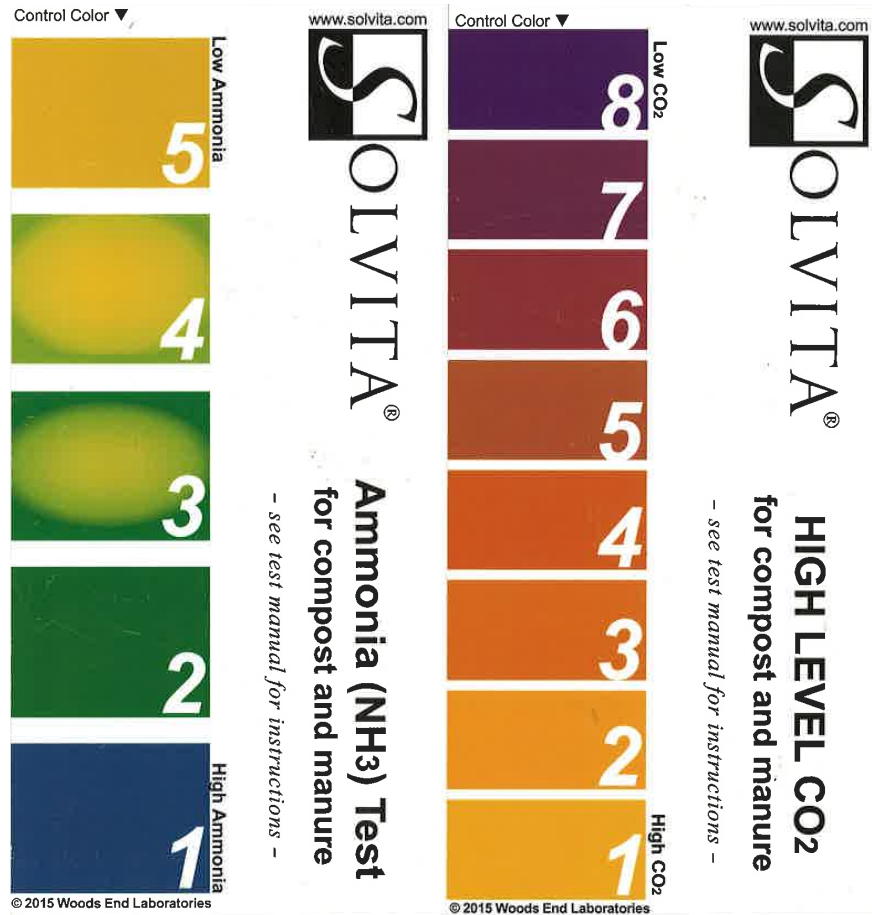

Figure 3: Interpretation of compost maturity index.
**Compost Maturity** Compost maturity is the degree of stability of the compost product and the degree to which it is free of phytotoxic (plant-toxic) compounds. Figure 3 shows the relationship between compost maturity and the composting process.